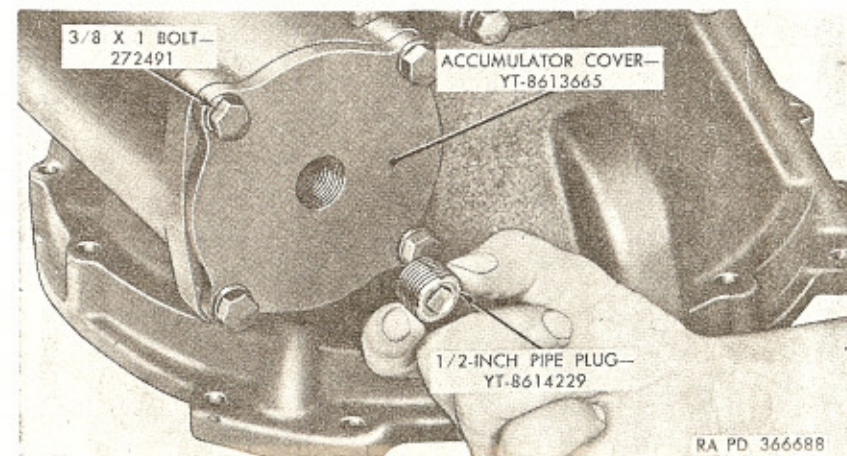

Figure 169. Location of accumulator cover, bolts, and plug.
j. Loosen pipe plug (fig. 169); then alternately loosen a thread or two at a time the four bolts (E) holding accumulator cover to case until bolts and lockwashers (F) can be removed.
- (3) Install four $\frac{3}{8}$ x 1 bolts (E) and new $\frac{3}{8}$ -inch lockwashers (F) in cover. Tighten bolts alternately and evenly to 23 to 28 pound-feet torque. Tighten pipe plug in cover to 25 to 30 pound-feet torque. Refer to figure 169.